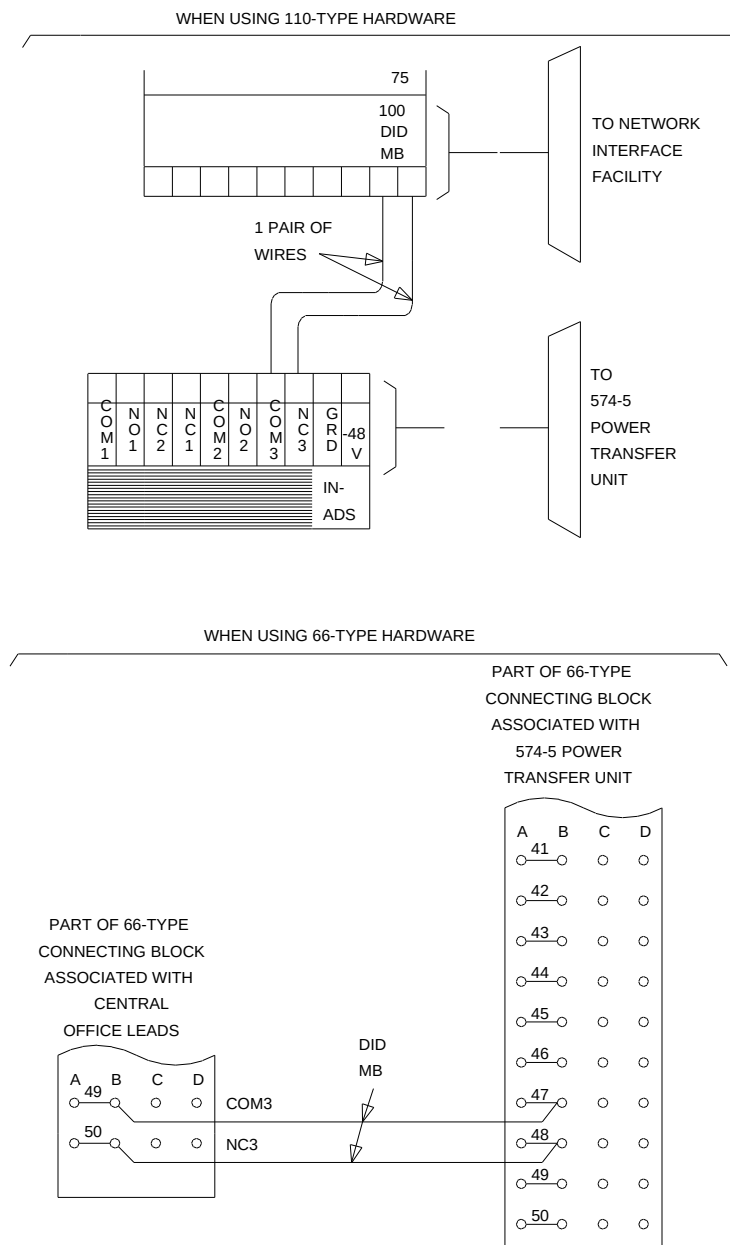

Figure 10-29. Connections at Trunk/Auxillary Field for DID Make-Busy Trunk: 574-5 Power Transfer Unit
Figure 10-29 shows the connections at the trunk/auxiliary cross-connect field for a direct inward dialing (DID) make-busy trunk. This option prevents DID trunks from being taken out of service by the serving CO during emergency transfer. This trunk is used for this function only and should be assigned to the twenty-fifth pair of a network interface jack.
1. At the trunk/auxiliary cross-connect field, connect a jumper from one DID make-busy lead to terminal **COM3** on the yellow emergency transfer row/connecting block (Figure 10-29).